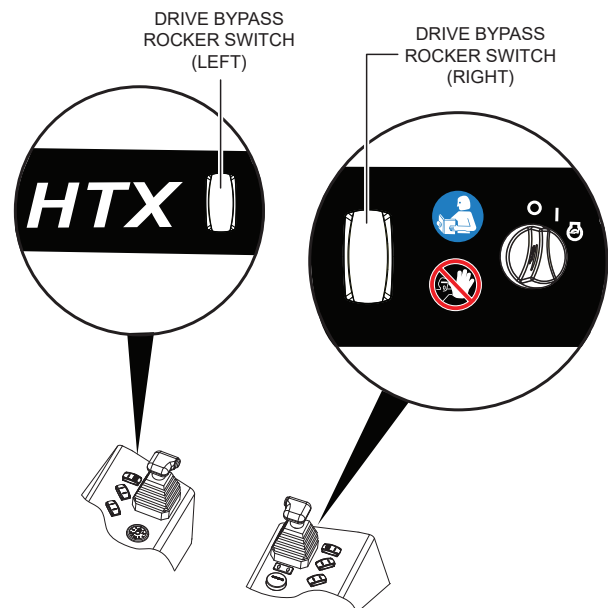

Figure 31. Drive Bypass Rocker Switches
2. **Without sitting in the operator's seat**, press and hold either drive bypass rocker switch (Figure 31) and press the foot pedal (by hand) to slowly rotate the trowel blades.